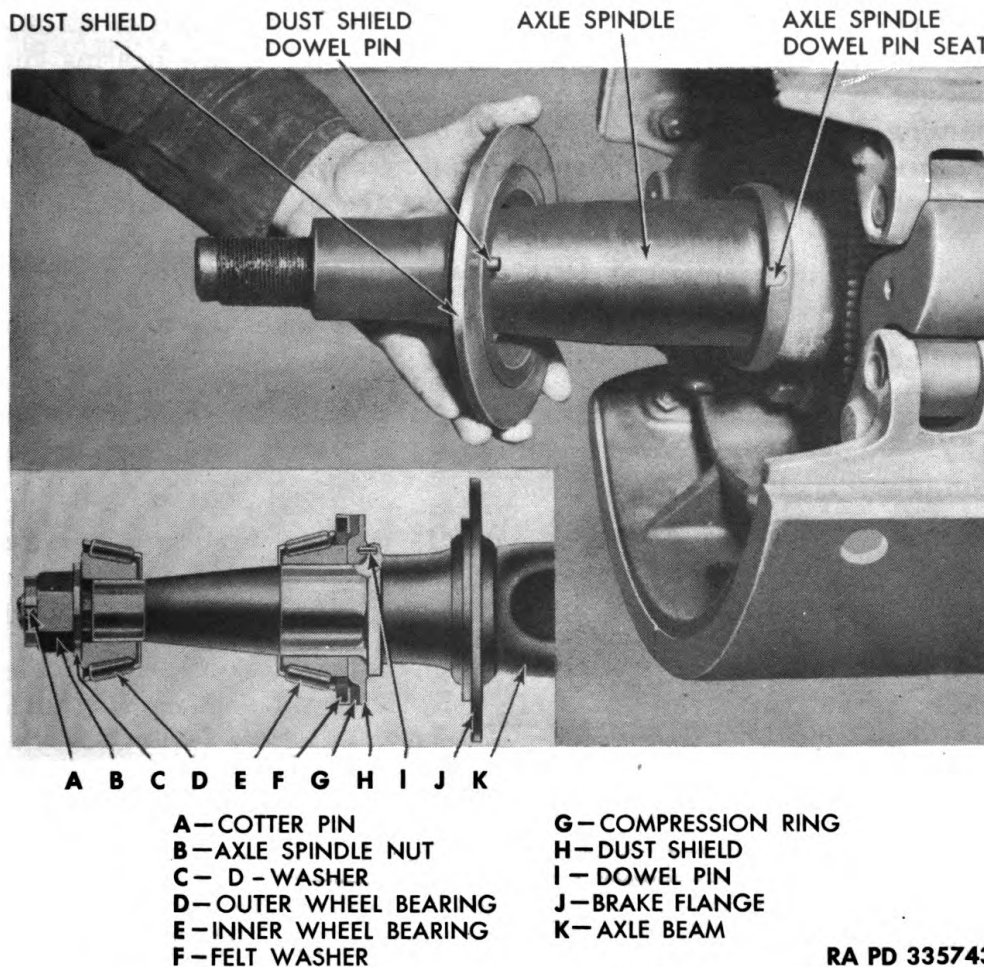

Figure 15—Axle Spindle Partially Disassembled and Sectional View of Spindle Assembly
c. Bearings. Each wheel and hub assembly is mounted on the axle spindle by two opposed tapered roller bearing assemblies. The bearing cups are pressed into the inner and outer bore of the hub. The bearing cones slide upon, and are supported by, the axle spindle. The hub, with its supporting bearing cups, is adjusted to turn freely upon the tapered bearing cones. The hub is adjusted, and retained in running position upon the bearings, by means of the axle spindle nut which retains the D-washer against the outer bearing (fig. 15).
(1) WHEELS.
(1) Using the jack supplied with the tractor truck unit of the semitrailer, jack up the axle assembly until the dual wheels are free from contact with the ground. Block the axle in this position.
(2) Remove outer wheel cap nuts, and remove the outer dual wheel.
(3) Remove the inner cap nuts, and remove the inner wheel.
(4) Remove the four cap screws retaining hub cap, and remove hub cap.
(5) Pull cotter pin from axle spindle, and remove the axle nut by turning in a counterclockwise direction (B, fig. 15).
(6) Remove the D-washer (C, fig. 15) from the axle spindle by inserting the blade of a screwdriver between the washer and the bearing face, and gently tapping with a hammer. Force opposite edges of the D-washer in succession, to prevent wedging.
(7) Jar the hub and drum assembly, and pull outward until the outer bearing is free. Remove the outer bearing. **CAUTION:** *Be sure that the brakes are fully released so that brake shoes do not drag against the drum.*
d. Replace Hub and Drum Assemblies (fig. 15).
(1) Replace inner bearing cone in the inner bearing cup of the hub assembly.
(2) Insert the compression ring (G) with its flanged side toward the inside of the hub, and place the felt washer (F) next to the compression ring.
(3) Make sure the dust shield (H) is properly in place on the axle spindle and locked into place by means of the metal dowel pin (I) which fits into a slot on the spindle and a hole in the dust shield.
(4) Using a greased skid plate on the end of the axle spindle, slide the hub and drum assembly onto the spindle. Place the outer wheel bearing (D) in the outer hub bore, and install the D-washer (C).
(5) Turn the axle nut (B) up tight against the D-washer, then slacken off about one-third turn. Before adjusting the hub and bearing assembly upon the axle spindle, replace the dual wheel and tire assembly. Rest one end of a short bar upon the floor beneath the dual tires. Using the bar as a pry against the tires, hold a finger of the free hand upon the outer portion of the bearing cage and the